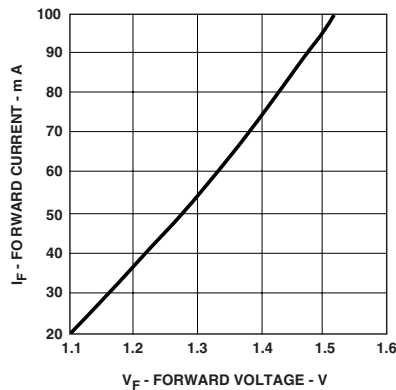

Figure 3. Typical forward voltage and current characteristics
| Forward Voltage | V_F | 1.1 | 1.4 | 1.7 | V | $I_F = 75 \text{ mA}$ | Fig. 3 |
7. Optical rise and fall times are measured from 10% to 90% with 62.5/125 μm fiber. LED response time with recommended test circuit (Figure 3) at 25 MHz, 50% duty cycle.